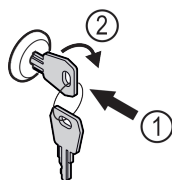

Fig. 140
- ▶ Insert key Fig. 140 (1).
- ▶ Turn key clockwise by 90° Fig. 140 (2).